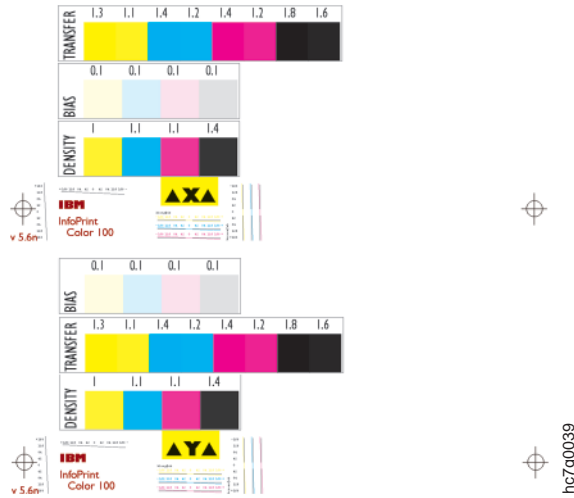

Figure 172. Narrow Control Strip: Cs_v5_6n
- Use narrow control strip Cs_v5_6n with jobs at least as wide as 2.79 inches. See Figure 172.